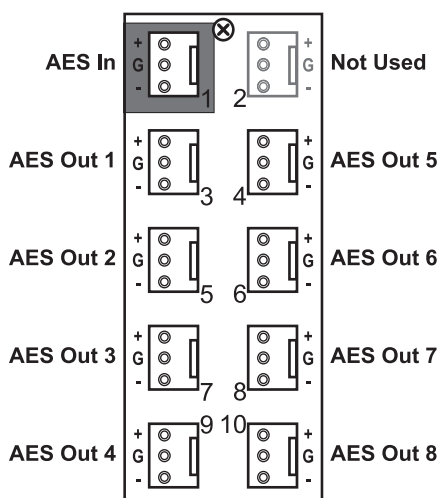

Figure 2.2 Cable Connections for the 8310AR-042 and 8320AR-042 Rear Modules
- **8310AR-042** Full Rear Module — Each module occupies one slot and accommodates one card. This rear module provides one AES input and eight AES outputs. (**Figure 2.2**)
- **8320AR-042** Full Rear Module — Each module occupies two slots and accommodates one card. This rear module provides one AES input and eight AES outputs. (**Figure 2.2**)